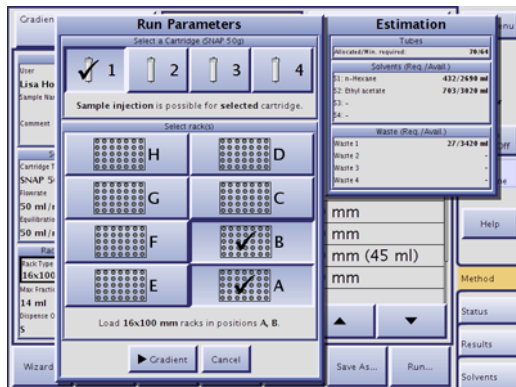

Figure 4-15. Run Parameters and Estimation Dialogs
7. To start or queue up* the purification, press ► **Equilibrate/Gradient** (see Figure 4-15). The **Status** tab is selected. Before the run is started, the system performs a UV Zero using the gradient's initial solvent mix. Note that a gradient run is not started until the UV lamp is sufficiently warmed up.